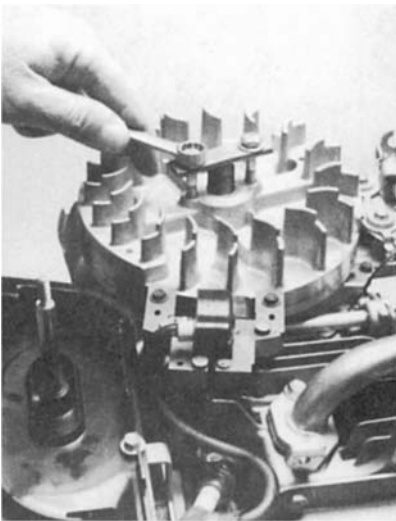

FIG. 8-2. *A homemade puller works about as well as the factory tool and costs nothing to fabricate.*
5. A suitable puller can be fabricated from bar stock with bolt holes on 1.5-in. centers (Fig. 8-2).